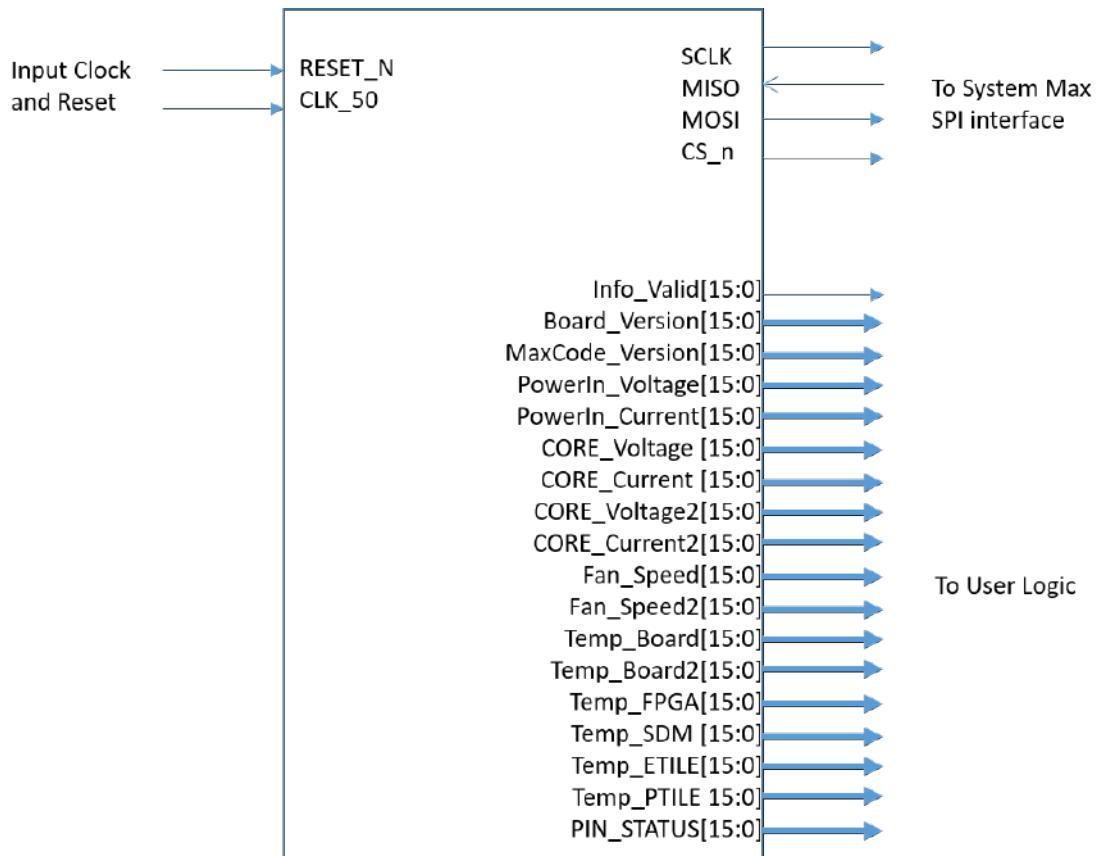

Figure 5-15 Pin out of the board information IP
**Figure 5-15** shows the input and output pins of the board information IP. Detailed pin descriptions and functions can be obtained from **Table 5-4** Board information IP input and output ports. The user only needs to provide the IP 50Mhz clock and the reset control signal. The IP will automatically communicate with the system MAX FPGA to get the board status value via the SPI interface. When the logic level of the Info\_Valid signal is from low to high, it means that the board status has been updated and can be used.